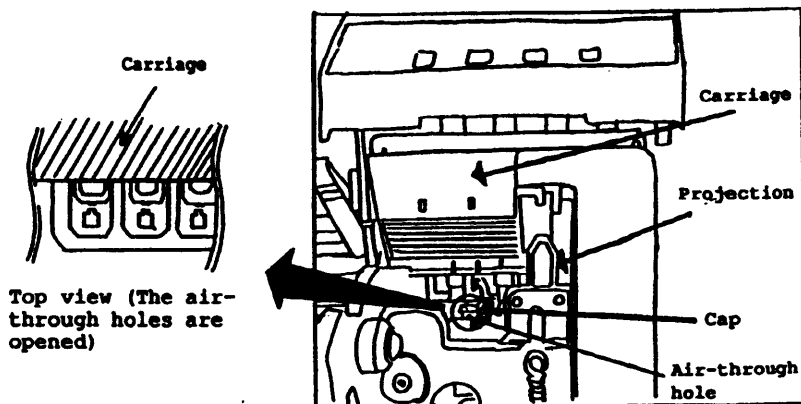

Figure 5
3. Rotating the cap cam causes the head caps, the air-through holes then the projection for fixing the carriage to operate as shown below. Rotate the cap cam until the head caps and the air-through holes are closed. (See Figure 5.)